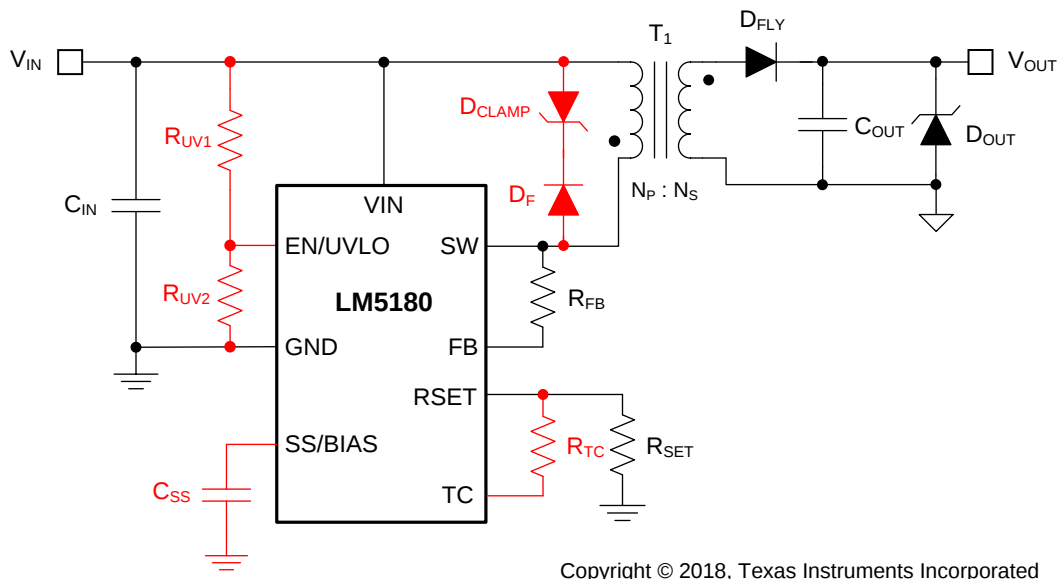

图 19. LM5180-Q1 Flyback Converter Schematic (Optional Components in Red)
To minimize output voltage regulation error, the LM5180-Q1 senses the reflected secondary voltage when the secondary current reaches zero. The feedback (FB) resistor, which is connected between SW and FB as shown in 图 19, is determined using 公式 8, where  $R_{SET}$  is nominally 12.1 kΩ.